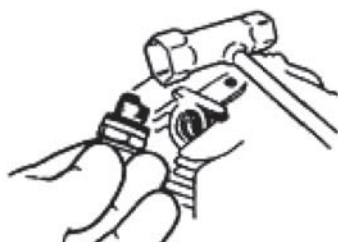

Figure 30
1. Disconnect the spark plug lead, and then use the spark plug wrench to remove the spark plug (turn counterclockwise to remove). See Figure 30.